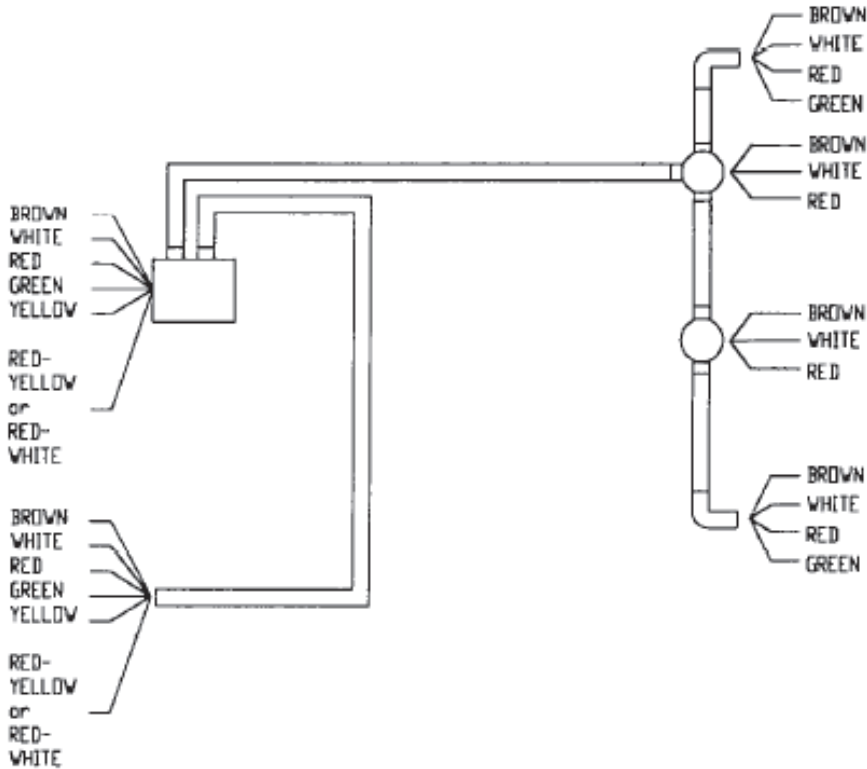

Figure 8 Dolly Converter Electrical Circuit Diagram
73. An electrical circuit diagram for the dolly converter is shown in Figure 8. Pin and colour codes for the 12 pin NATO connector are listed in Table 4.